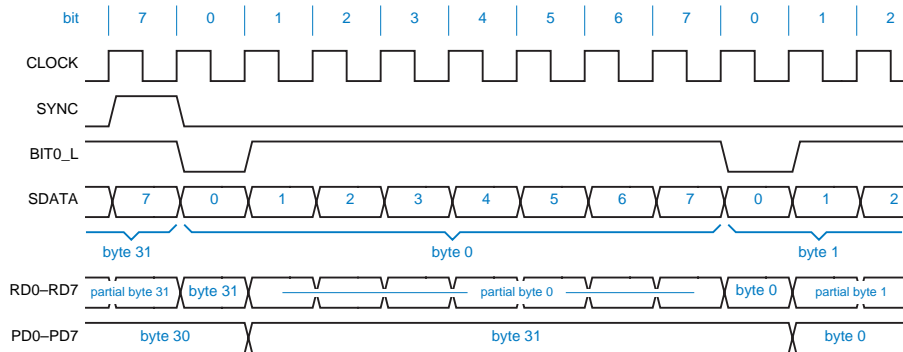

Figure 12: Timing diagram for serial-to-parallel conversion.
- Fig. 12
- A complete received byte is available at parallel output of 74x164 shift register during clock period following reception of last bit (7) of byte